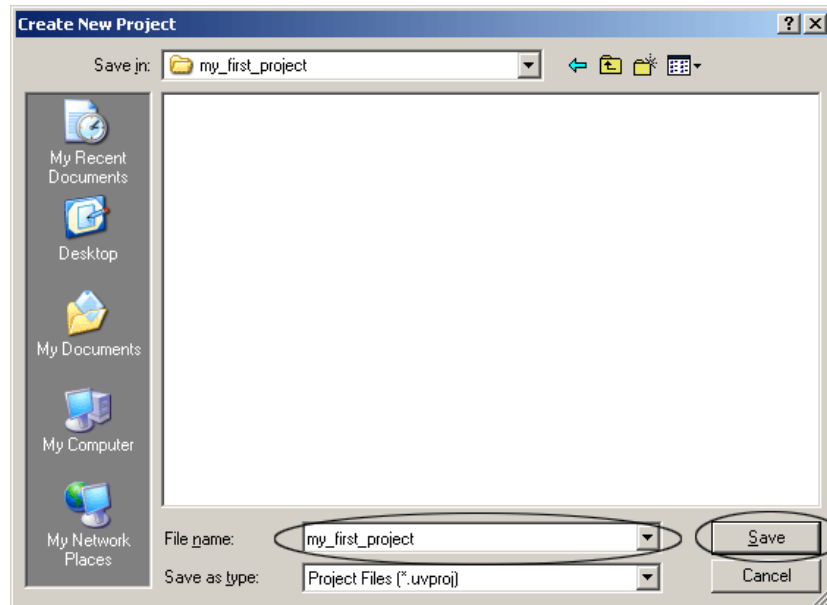

Figure 3. Naming the project
4. Create a new folder in the *Source code\projects* called “*my_first_project*” and then select **Save**. See Figure 3.